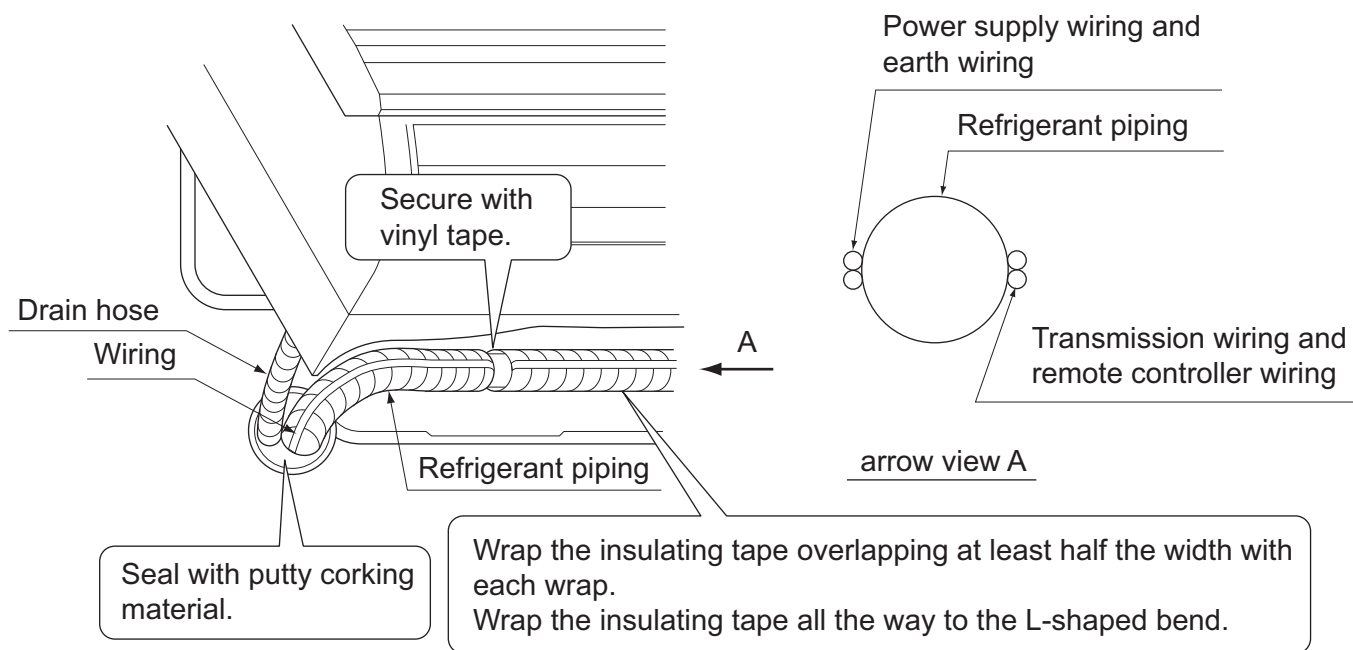

Fig. 10
(7) Pass power supply wiring, transmission wiring, earth wiring, and remote controller wiring through the wiring guide in from the back of the indoor unit and to the front.
(8) Connect the piping. (See “5. REFRIGERANT PIPING WORK” and Fig. 10)